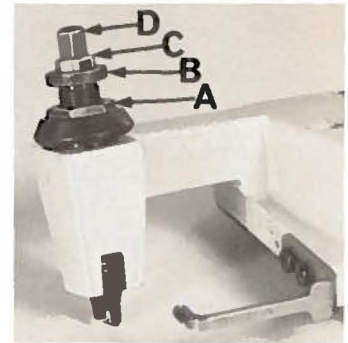

Fig. 2
Sufficient presser foot pressure to feed work uniformly should be maintained. Should it be necessary to increase or decrease amount of pressure on presser foot, loosen lock nut (A, Fig. 2) and turn adjusting screw (B). Adjusting screw has a right hand thread so tightening increases pressure, loosening decreases pressure. When pressure adjusting screw (B) has been properly set, tighten lock nut (A). With presser foot resting on throat plate, position locking nut (C) so that its under surface is approximately  $1/32$  inch to  $1/16$  inch from the top surface of adjusting screw (B). Set cap (D) against locking nut (C).